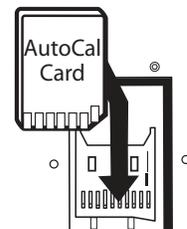

Fig. 2
2. Insert the Auto-Calibrate Card into receptacle. Make sure it is properly inserted and seated in the receptacle. The contacts on the card face outward (toward the rear of the machine), and the card must "click" into place. (**Fig. 2**).
- Remove the Decoder Plate from the storage pocket on the back of the machine (Fig. 1). Loosen the Quick Nut (Fig. 2). Place the Decoder Plate on the Cutter Shaft, at the outside of the cutter (to the left) and tighten the Quick Nut (Fig. 3) NOTE: It is not necessary to remove the Quick Nut to mount the Decoder Plate.